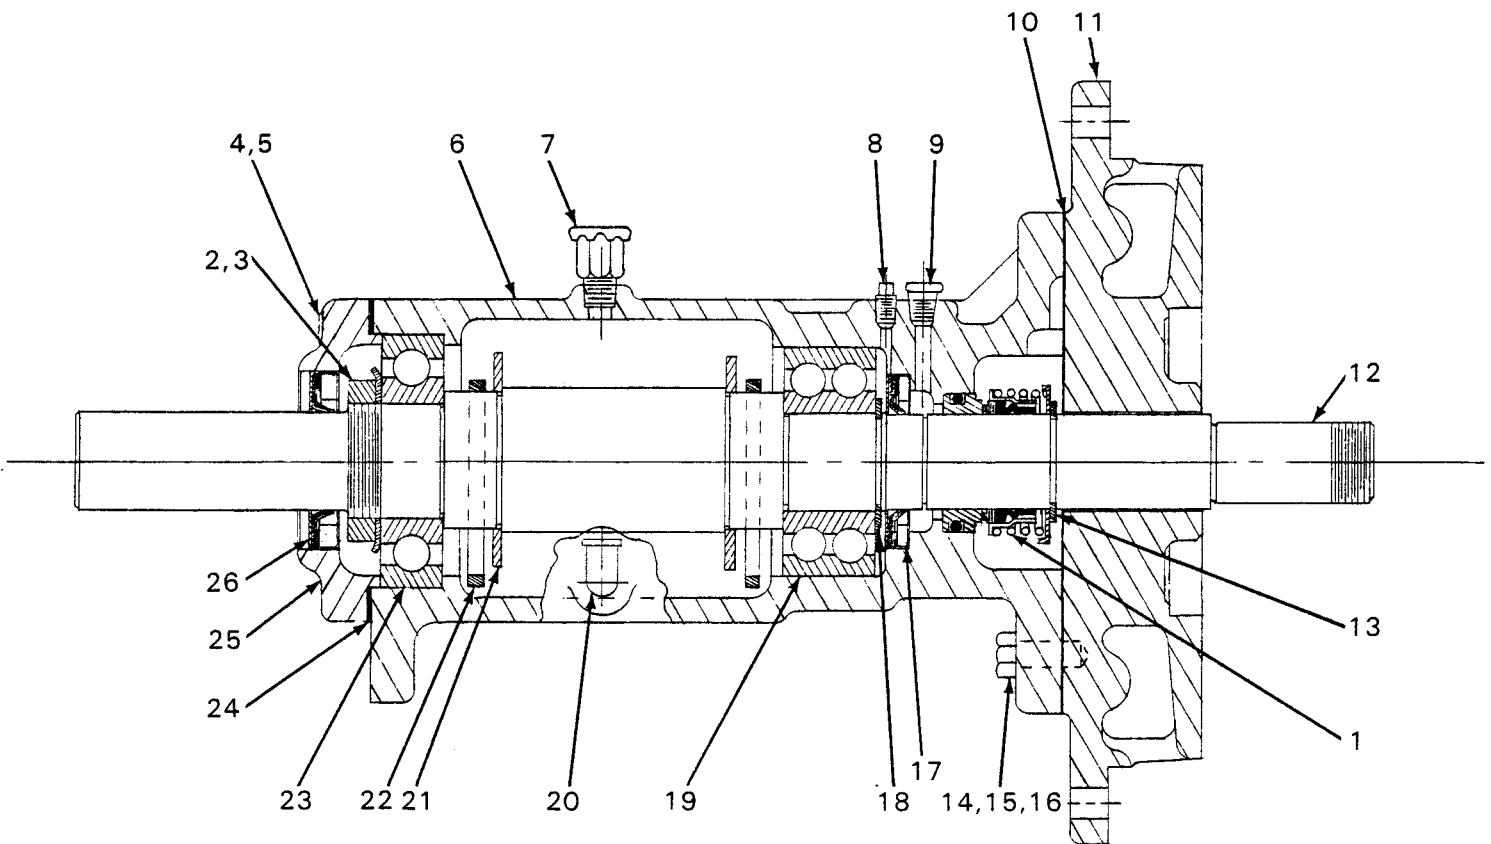

Figure 2. Sub-Assembly R12947
This pump requires little service due to its rugged, minimum-maintenance design. If it becomes necessary to inspect or replace components in and adjacent to the rotating assembly, however, follow these instructions, which are keyed to the sectional views (see figure 1 and figure 2) and the accompanying parts lists.
Slide the impeller off the shaft (12, figure 2).
To remove the seal assembly (1, figure 2), remove the snap ring (13). Use caution when removing the snap ring from the shaft; tension on the seal spring will be released as the snap ring is removed.
See figure 2 for the correct order of installation of seal components.